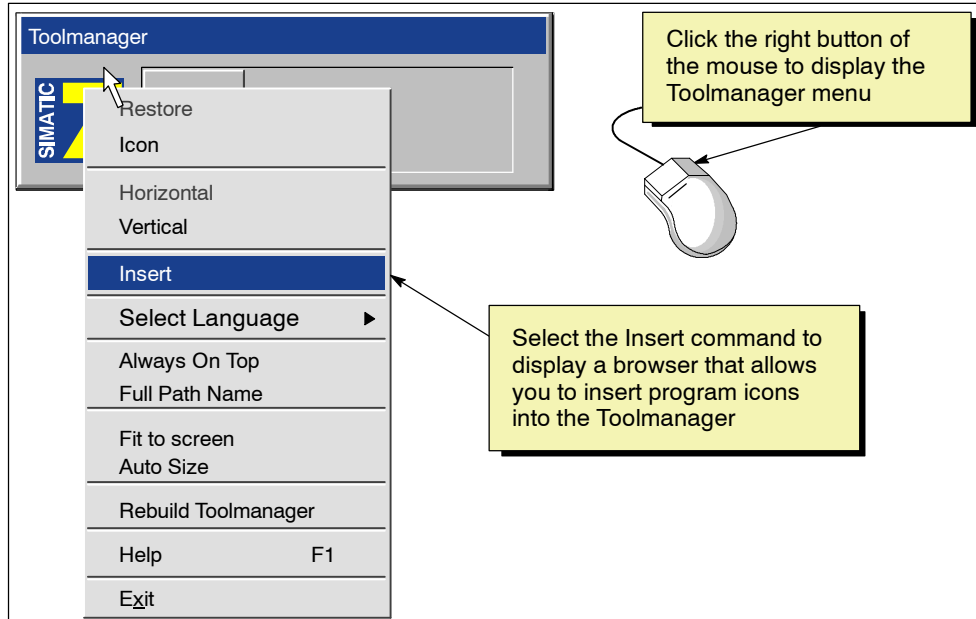

Figure 4-2 Inserting Icons into the Toolmanager
- Using the **Insert** menu command of the Toolmanager (see Figure 4-2)
2. Click the right button of the mouse to display the menu options for the Toolmanager. See Figure 4-2.
You can use the mouse to resize the Toolmanager. You can also use the options menu (shown in Figure 4-2) to further customize the Toolmanager: